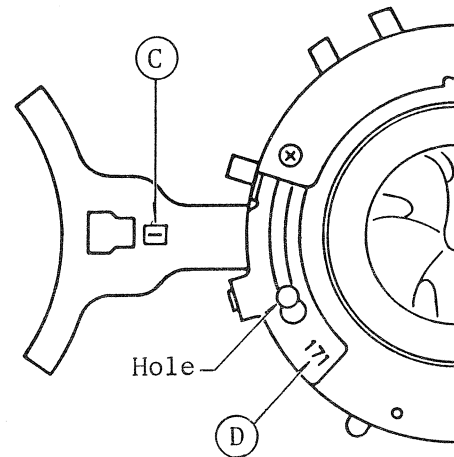

Fig. 14
- 1) Adjustment is made by turning the eccentric dowel through the hole. (Fig. 14 and 15)